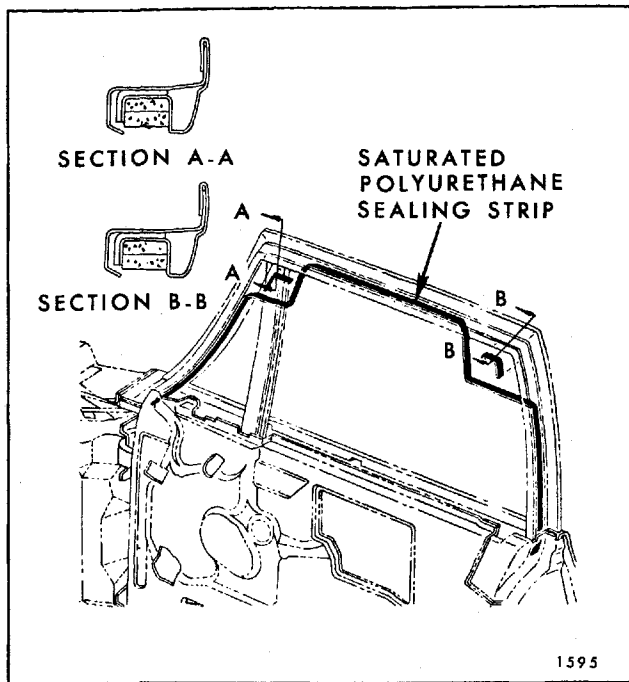

Fig. 7-65—Front Door Window Glass Run Channel Sealing - "B & C" Closed Styles
7. To install, reverse removal procedure. Prior to installation, inspect saturated polyurethane foam sealing material along length of door upper frame contacted by ventilator (Fig. 7-65). If material is damaged, replace with